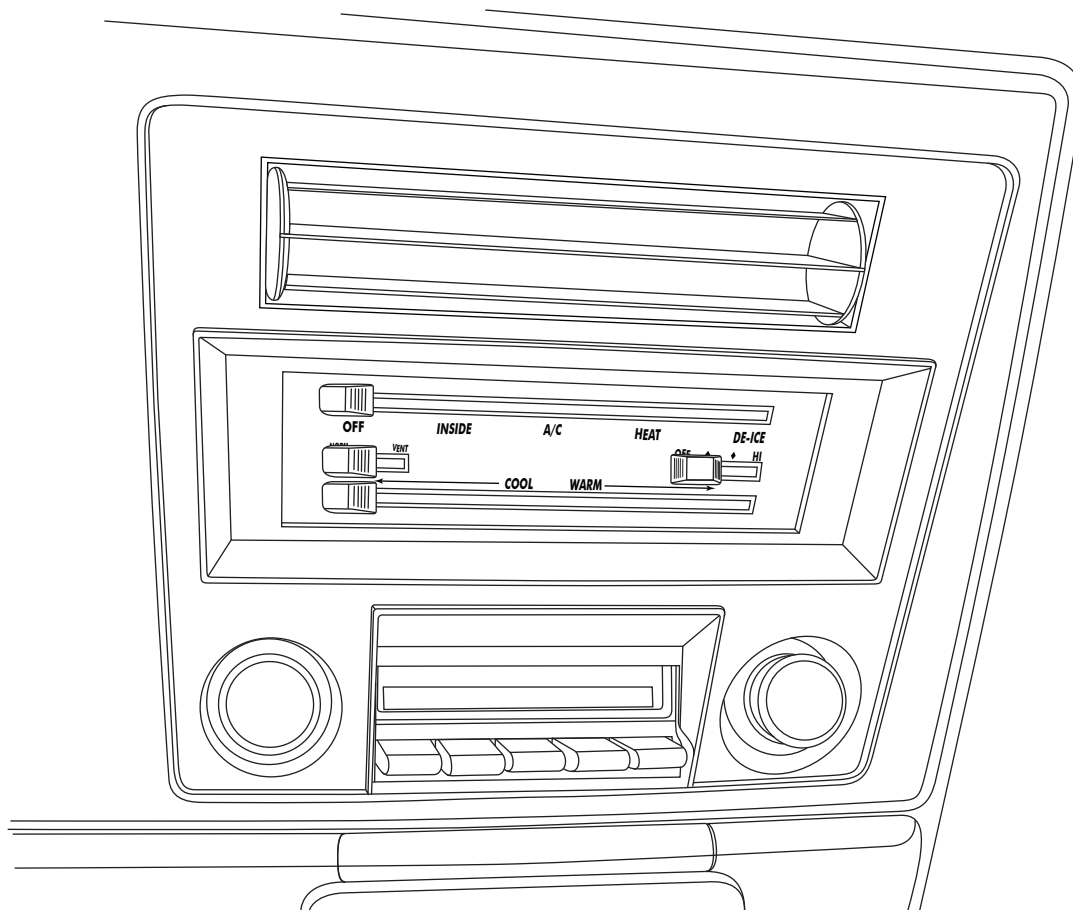

Figure 1
1. Remove the (4) OEM mounting screws from behind the dash (See Figure 1, below).